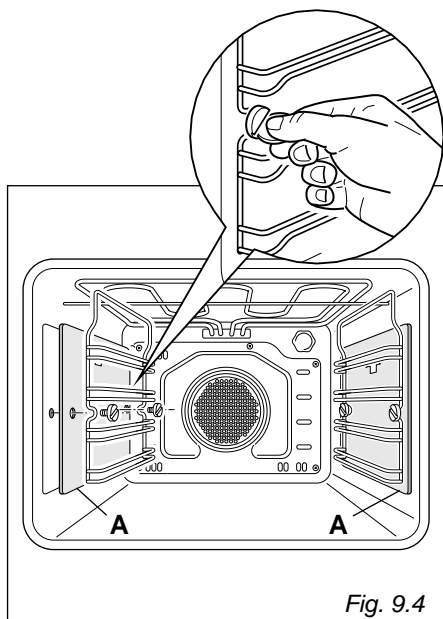

Fig. 9.4
- Assemble the wire racks on the oven walls using the 2 screws (Fig. 9.4).
- In the models with catalytic panels interpose the catalytic panels “A” with the arrow up (Fig. 9.4).
- Unscrewing the fixing screws and slide off the wire racks and the catalytic liners (if supplied) to the oven wall as in fig. 9.4.